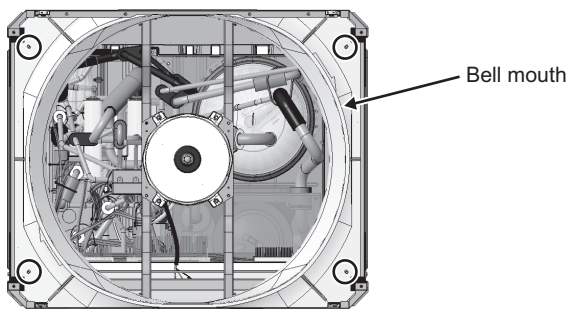

Fig. 31
(8) Remove the bell mouth. (Four screws: Fig. 31)